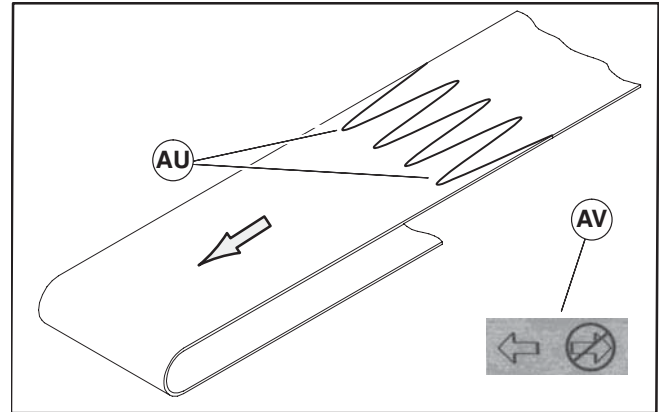

Figure 28
- If equipped, install return roller bearing (Figure 28, item AP) into knuckle plate (AW) using screws (AO).